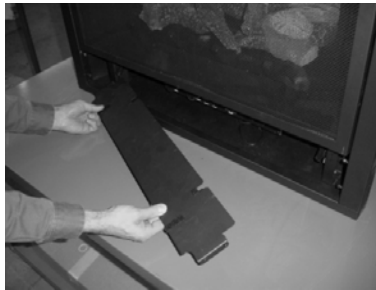

Figure 1
- 1 Remove the concealment cover (see Figure 1).
- 21 Clip any excess wiring into the wire clips on the back of the control panel (see Figure 33). Use the included wire ties, if necessary, to keep all wiring from contacting any hot or moving components. Re-attach the control panel (see Figure 34) and shroud (see Figure 1).